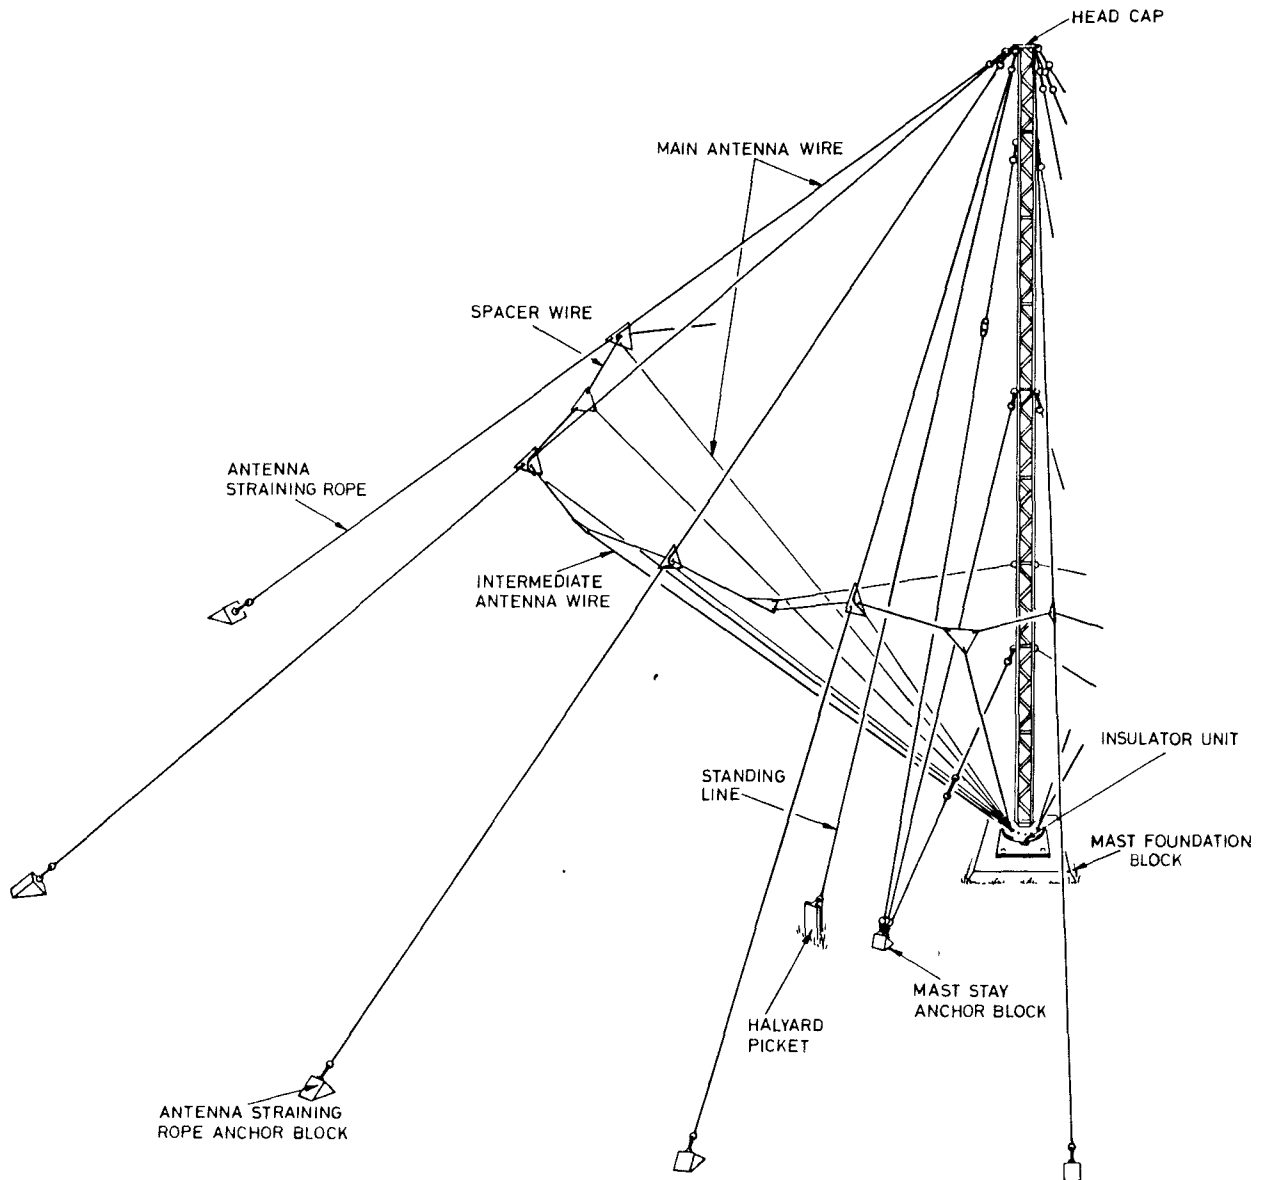
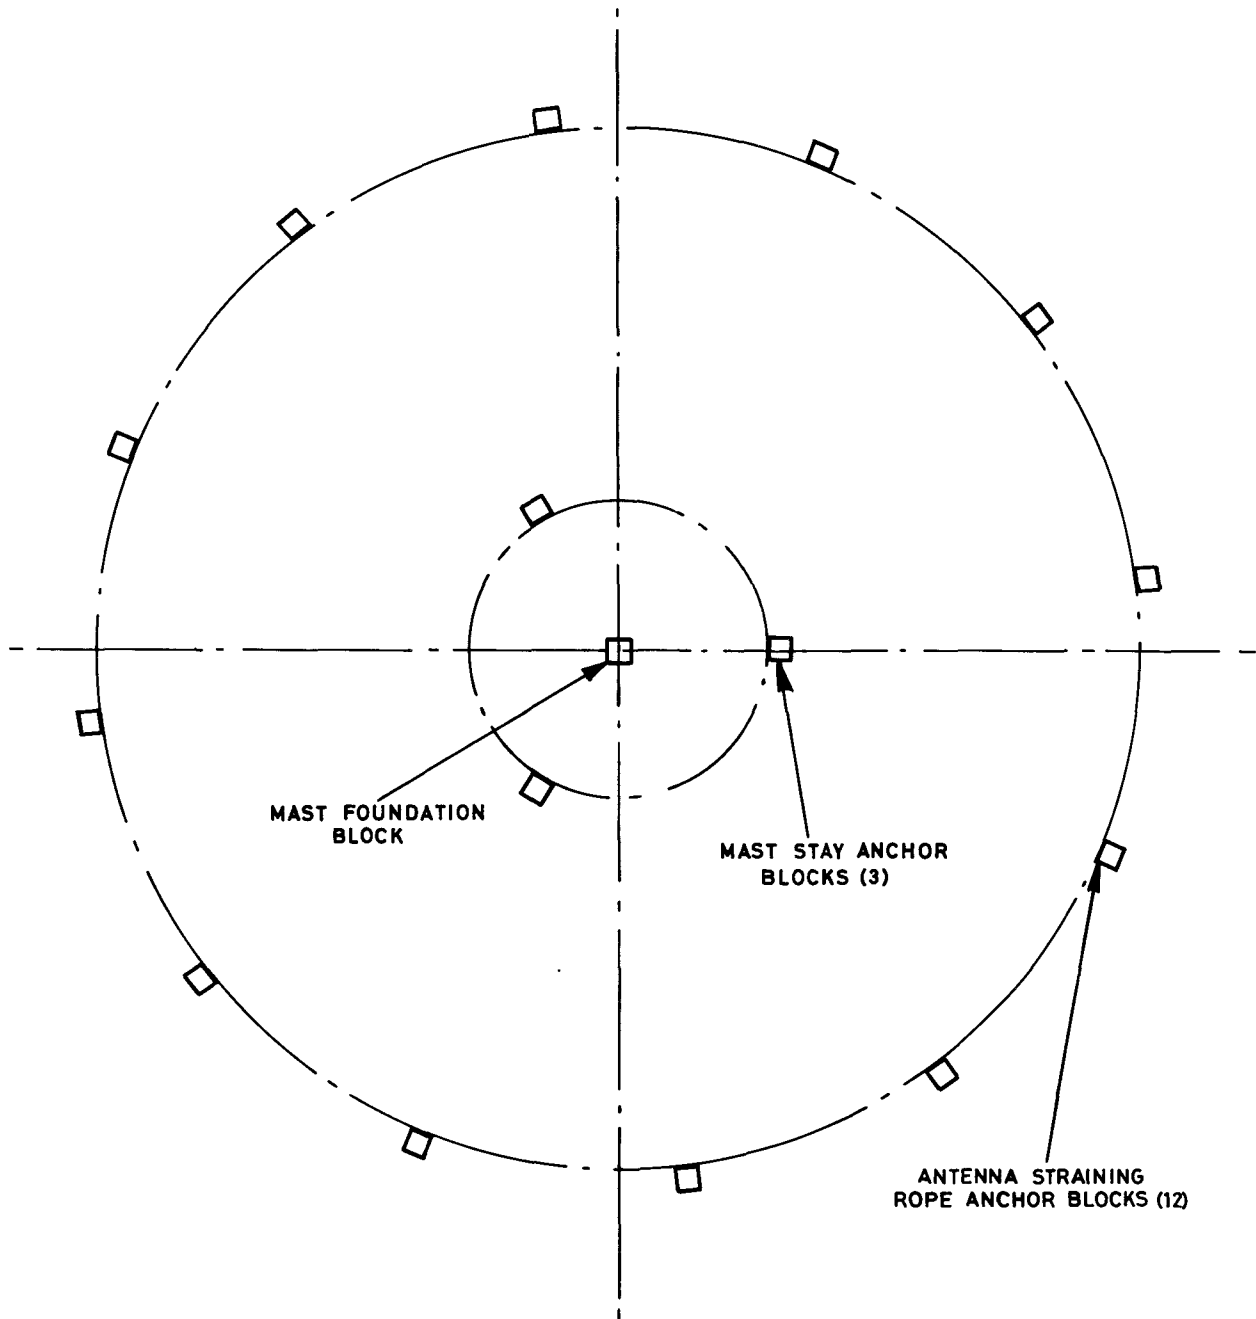

Fig 1 Antenna basic construction
Fig 2 Site layout
2 Each antenna consists of 12 copper cadmium wires, attached at the top and bottom of a steel lattice mast, with straining ropes providing the means for antenna shaping (fig 1). The mast is supported by three sets of stays on 120° radials (fig 2), and the bottom end of the mast is insulated from ground.
7 Check that the foundations as supplied by PSA (DOE) are in agreement with figure 2.
12.3 One off item 32 to each top rigging screw.
13 Fit a 1/2 in. rigging screw (item 56) via a 3/8 in. 'D' shackle (item 40) to each of the twelve antenna straining rope anchor blocks (fig 1, Chap 8). Adjust the rigging screws to their mid-position. Place a preformed dead end (item 57) and an 8 mm dia wire rope thimble (item 58) with each of the rigging screws at the antenna straining rope anchor blocks.